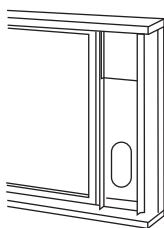

Fig. 14
3. Trim another foam seal (with adhesive) to the proper length and attach it to the open side of slider kit (Fig. 14).